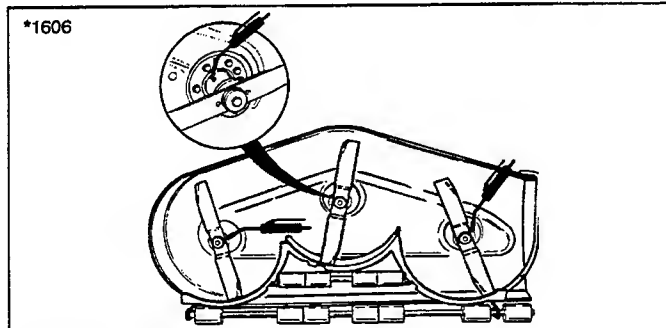

Figure 12. Mower Arbor
7. Lubricate the mower arbors as shown in figure 12.